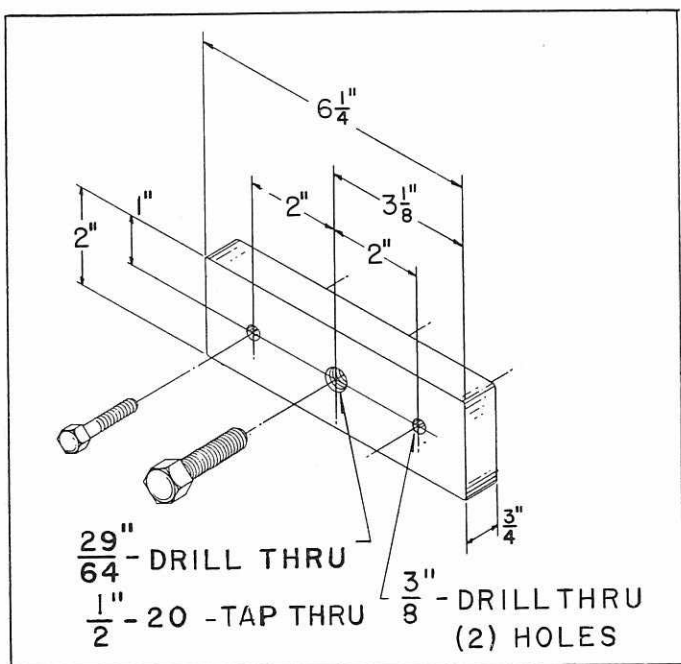

Fig. 27.
5. Construct a wheel puller out of steel similar to the one shown in Fig. 27.